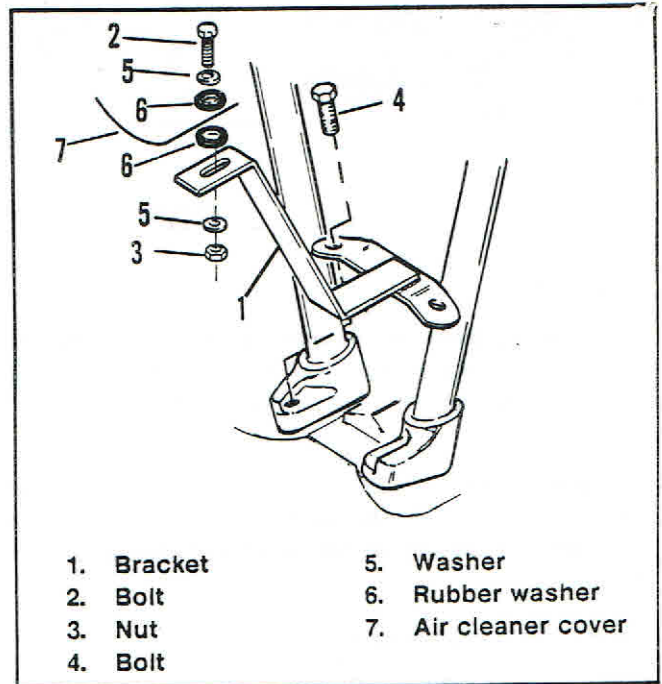

Figure 2. Bracket mounting
1. See Figure 2. Remove socket head screws from intake tappet guide blocks. Leave washers in place.
2. Place bracket (1) over holes in intake tappet guide blocks.
5. Inset bolt (2) through washer (7), rubber washer (8), air cleaner cover (9), rubber washer (8) and through bracket (1).
6. Place washer on bolt (2) and thread on nut (3).
7. Tighten bolts (4) to a torque of 8-10 ft-lbs. Tighten nut (3) to 6 ft-lbs.